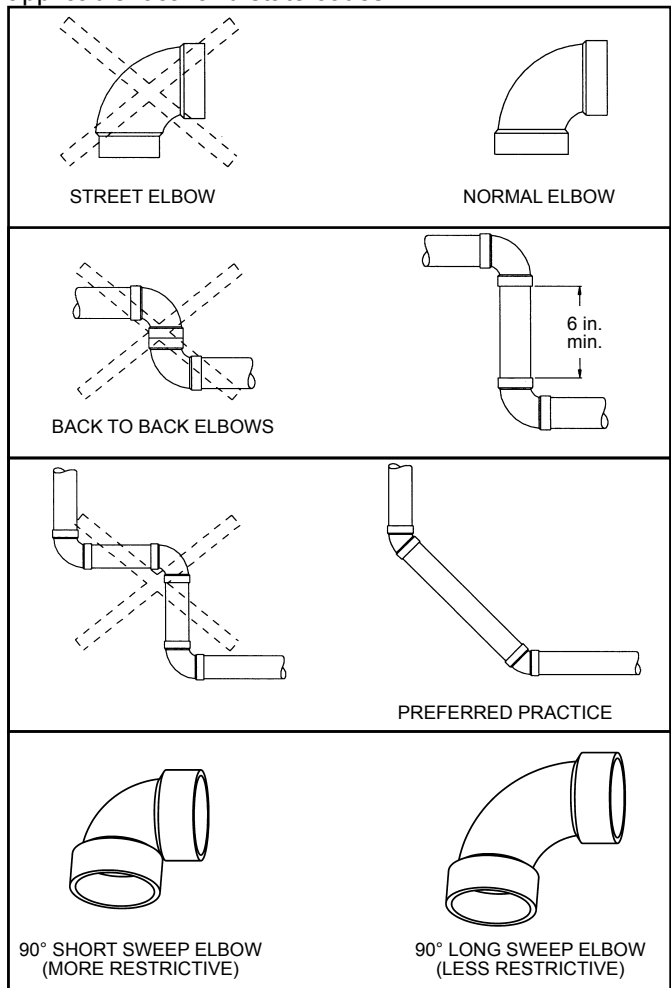

Figure 31
Note: The information provided in Figure 31 is intended as a guideline for good vent installation practices only and is not intended to restrict venting options beyond those restrictions established by the current edition of the “**National Fuel Gas Code, ANSI Z223.1/NFPA 54**” or any applicable local and state codes.
3. Avoid using 90 degree elbows "back to back" and do not use street elbows. Maintain a minimum 6 in. straight section between elbows. Closely coupled and short radius elbows reduce the venting capacity. Figure 31 shows examples of vent pipe connections.